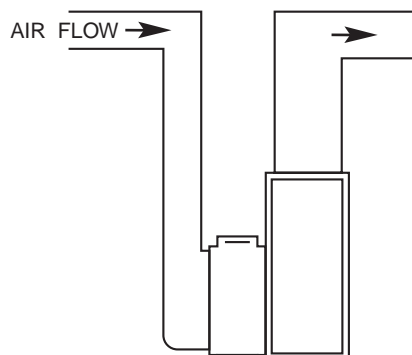

Fig. 2—Model 393AAV Upflow Furnace
1. Filters installed in media cabinet adjacent to furnace (see Fig. 2)
2. Filters installed in side(s) and/or bottom of blower compartment (See Fig. 2)
- c. Release filter retainer from clip at front of furnace casing. (See Fig. 2.) For side return, clips may be used on either or both sides of the furnace.
- Remove 2 screws that secure relief box. (See Fig. 2.)